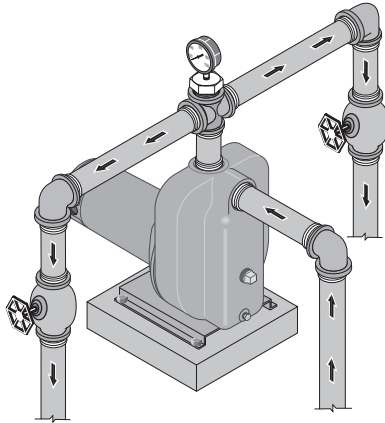

FIGURE 3 – MULTIPLE DISCHARGE
This pump is designed for a pond, cistern or well points. Pump discharge can be divided to supply two (2) or more sprinkler systems. A suggested multiple discharge to service is shown in Figure 3.